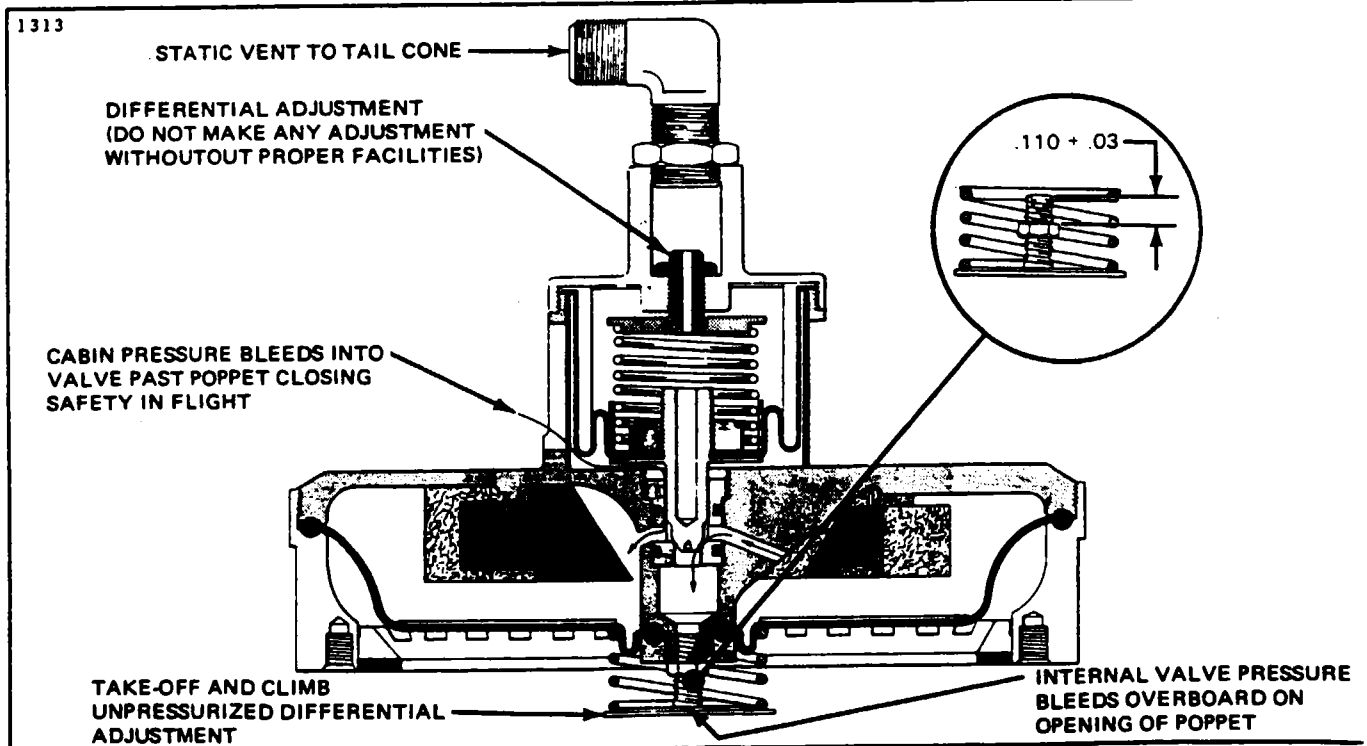

Figure 13-36. Safety Valve
a. The safety valve diaphragm spring assembly should be adjusted so that from the top of the jam nut to the top of the threaded portion should be $.110 + .03$ of an inch. Install the spring assembly into the safety valve until the jam nut makes contact with the valve base then tighten the jam nut 4 to 8 in. lbs. (Refer to Figure 13-36.)